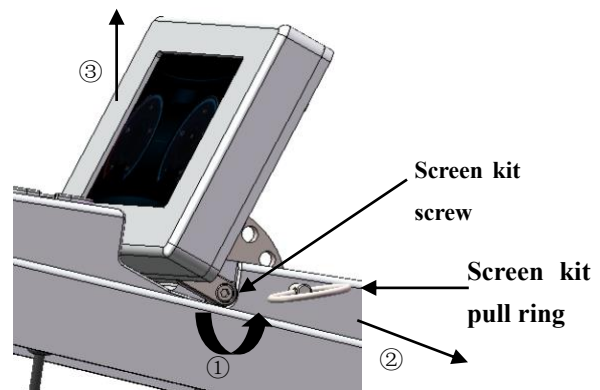

Figure 6-8
- Rotate the **Screen kit screw** counter clockwise, pull out the **Screen kit pull ring**, and lift the screen upwards, as shown in Figure 6-8.